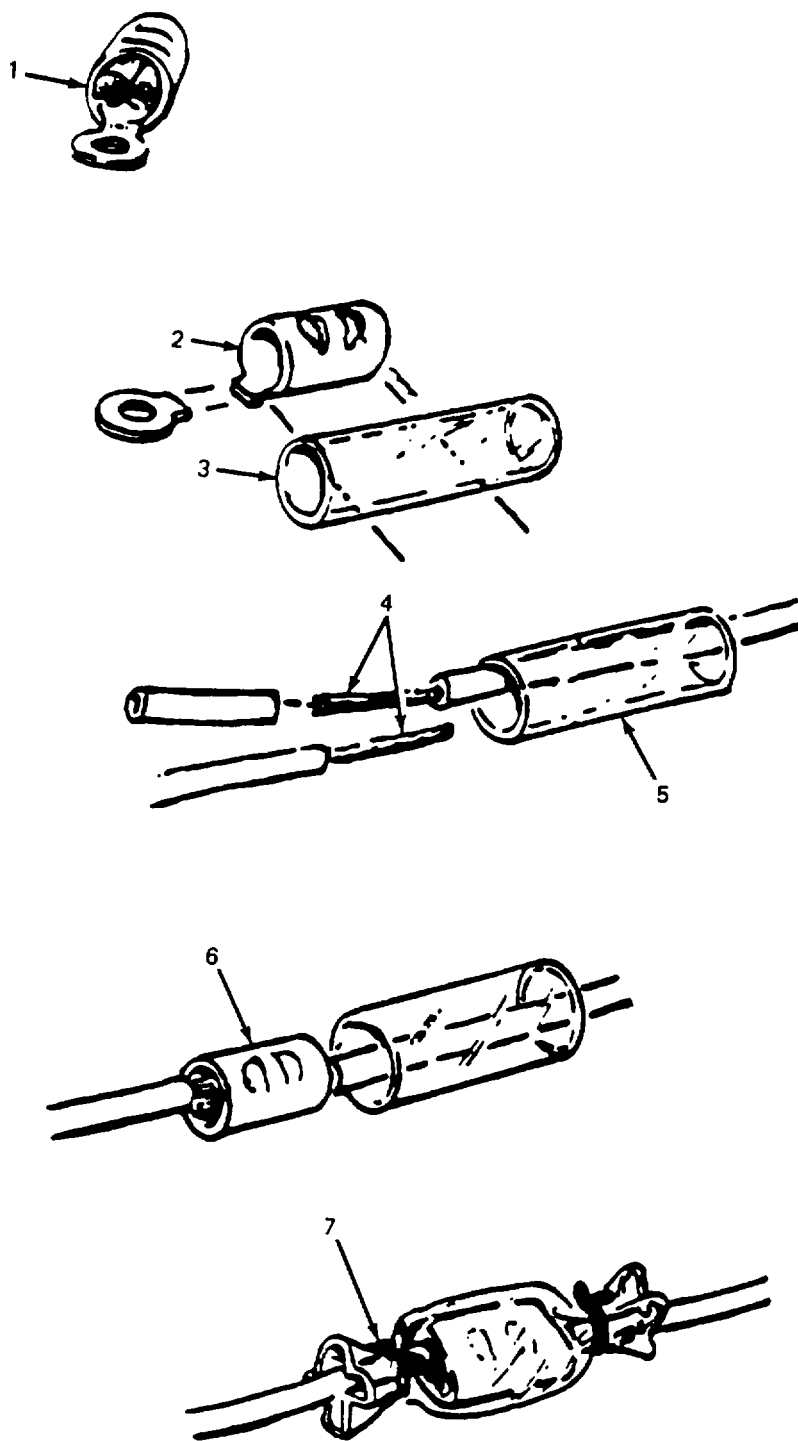

Figure 7-6. Splice Method to Repair Same Size Wire.
(2) Option 2: Wire splice method.
- (a) If terminal lug barrel is used for splicing, select barrel diameter large enough to accept both wires (1, figure 7-6).
- (b) Cut off terminal flush with pre-insulation (2, figure 7-6).
- (c) Cut insulating sleeve one inch longer than the barrel (3, figure 7-6).
- (d) Strip end of broken wires (4, figure 7-6).
- (e) Install insulating sleeve or shrink tubing, if available, over one end of broken wire (5, figure 7-6).
- (f) Insert wires into the prepared splice barrel and crimp to secure the wires (6, figure 7-6). Use crimp tool matching the size of the barrel.
- (g) Slide sleeve or tubing over the splice or use tape to insulate the conductor and apply heat to shrink material. Ends of non-shrink sleeve must be tied (7, figure 7-6).